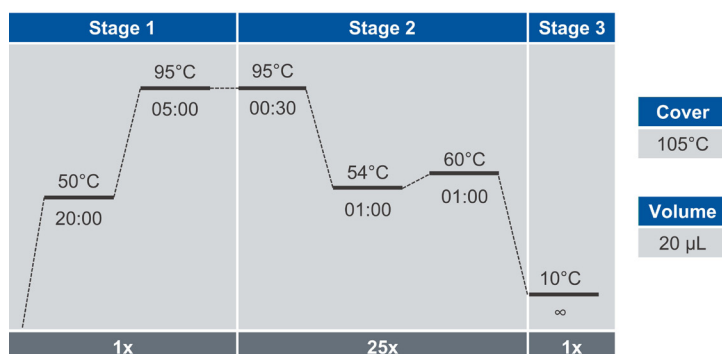

Figure 29. Olink PCR1 program
1. Start the PCR program *Olink PCR1* on the ProFlex™ PCR instrument (Figure 29). Pause when the PCR block temperature reaches 50 °C.